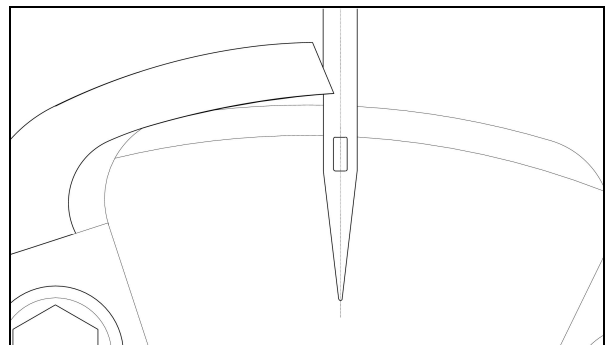

Fig 3
With screw (B) in the cut after mode, the point of the looper should be as Fig 3.